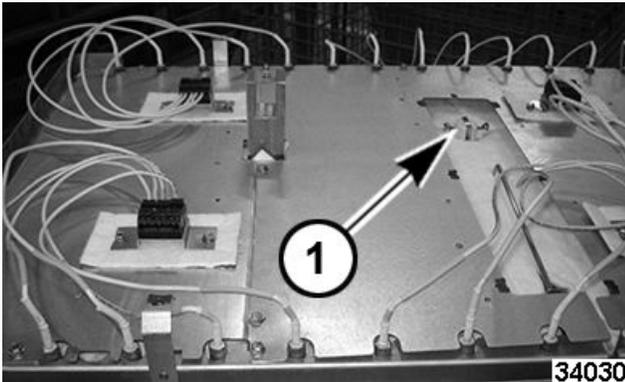

Fig. 52
- 3. Remove panel to access high limit thermostat (1, Fig. 52).